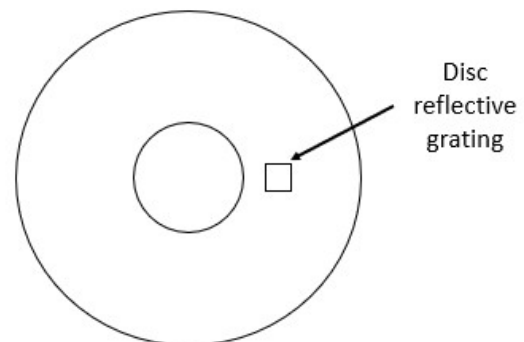

Figure 3
2. Turn on the laser and aim the beam slightly off-centre (left or right) on the CD surface, as shown in Figure 3.